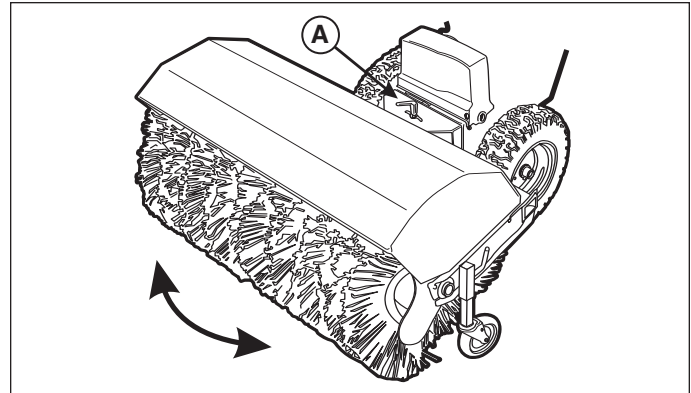

Figure 3. Brush Angle Adjustment
2. Loosen the T-nut on top of the adapter frame and turn the brush as needed. (See A, Figure 3)